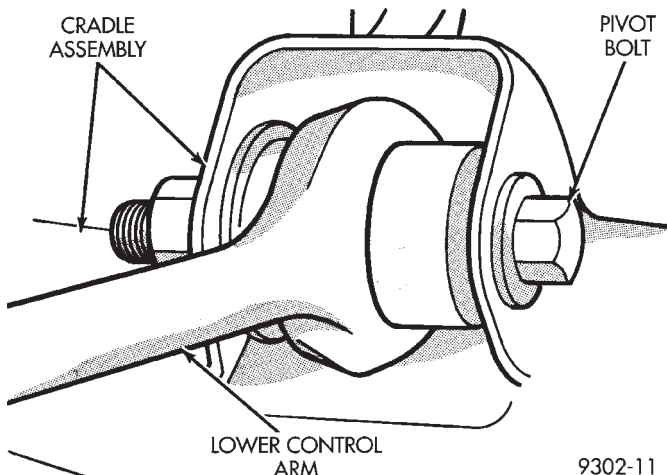

Fig. 18 Lower Control Arm Pivot Bolt
(5) Lower vehicle so the suspension is supporting vehicles weight (control arm at design height). Torque the lower control arm pivot bushing to cradle bracket attaching bolt (Fig. 18) to 123 N•m (90 ft. lbs.).